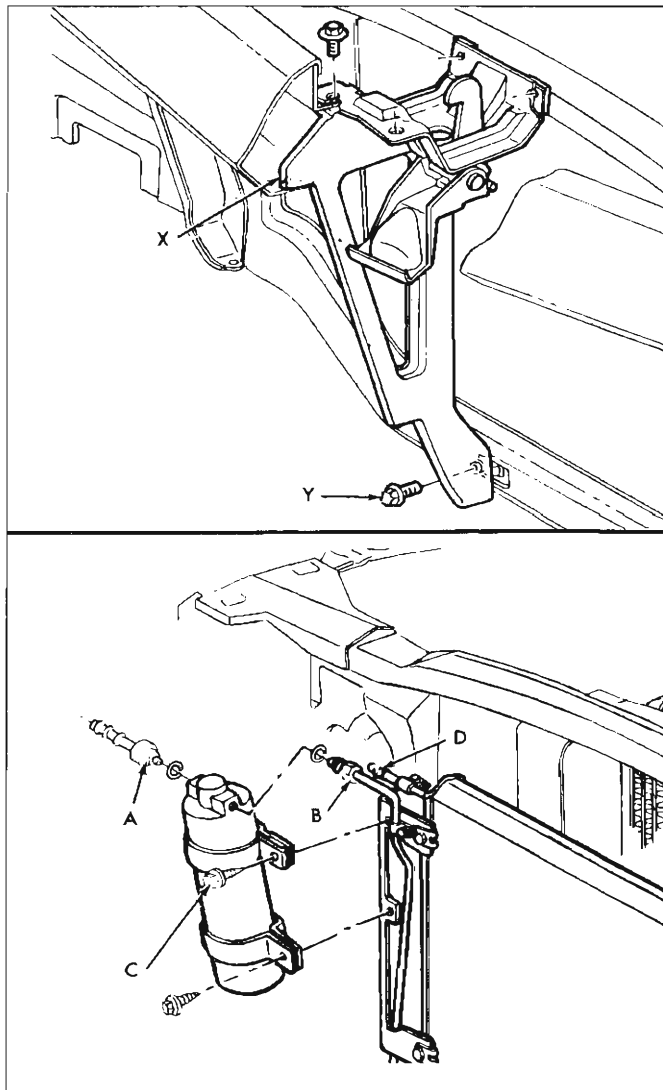

Fig. 41—Condenser Replacement—Chevrolet
2. Chisel off rivet "A" and drill out rivet "B" (fig. 41). Then remove bolts "C" and remove the grille support.
3. With the system purged of refrigerant, disconnect the inlet hose clamp connection at "D," Figure 41; the receiver-dehydrator "O" ring outlet connection at "A" and the four condenser to radiator support attaching screws.